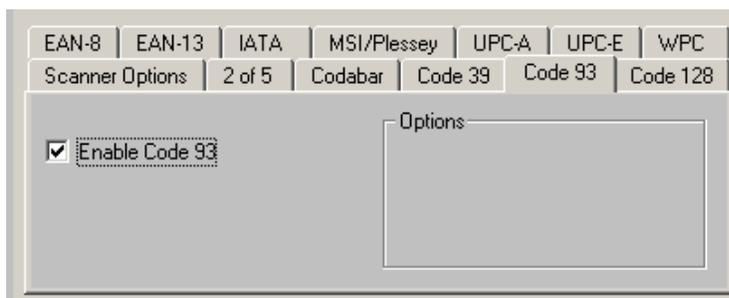

Figure 15-15 Scanner Selection-Code 93 Tab
- 3 Uncheck the 'Enable' check box in the corresponding tab to disable a barcode type. For example, to disable Code 93 barcodes, uncheck the Enable Code 93 box in the Code 93 tab (Figure 15-15).